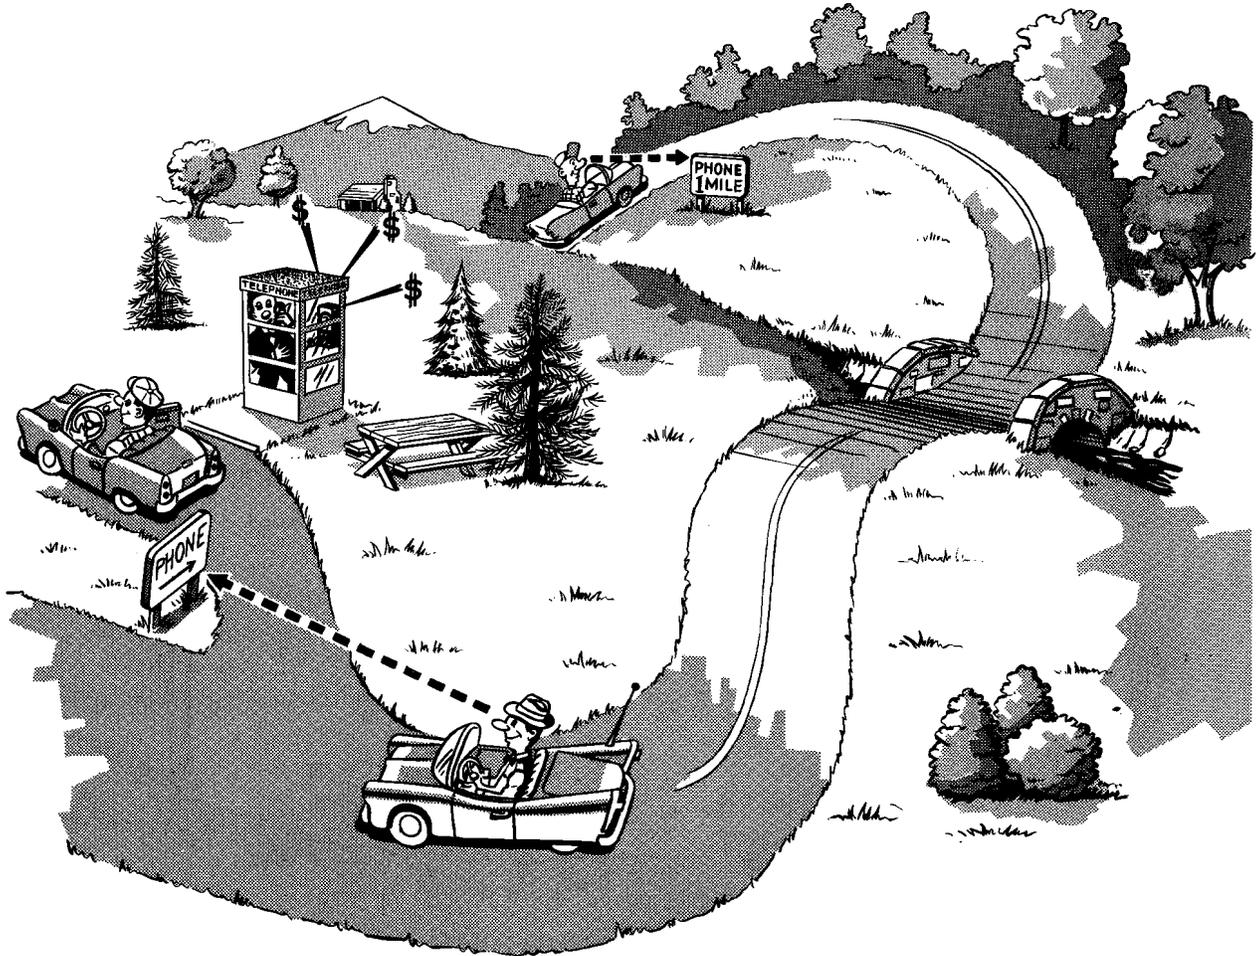

Fig. 1 — Sign KS-16540, Lists 1 and 3
1.01 The location for the KS-16540 sign should conform with local highway regulations. Maximum visibility from the greatest distance should be provided for the approaching motorist. (See Fig. 1 and 2.)